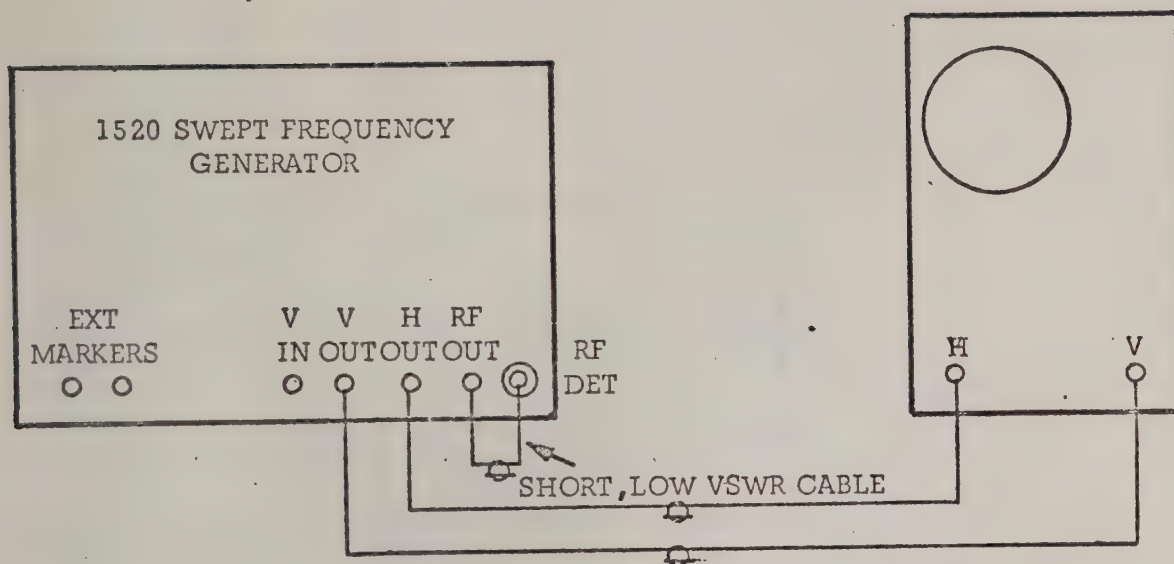

FIGURE 3.1 LINEARITY TEST SET-UP
- (1) 1/2 hour warm-up for each frequency band.
- (2) Bandwidth selector WIDE.
- (3) Calibrate Control - screwdriver slot set to vertical position.
- (4) RF Level Control set to MAXIMUM.
- (5) RF attenuation switch set to 10 db.
- (6) Harmonic marker selector switch set to 10 MHz position (1 MHz for .05-10 MHz band and the 1-10 MHz region of the 1 - 300 MHz band.)
- (7) Sweep Rate Control - 6 - 60 Hz. VARIABLE to MAXIMUM.
- (8) Vertical Blanking control to ON.
- (9) Establish a swept display on oscilloscope, as per Figure 3.1, of 5 to 6 CM amplitude.
- (1) Variable Bandwidth control set fully clockwise.
- (2) Bandwidth selector to WIDE.
- (3) RF Level control set to MAX.
- (4) RF attenuator switch set to 10 db.
- (5) Sweep Rate switch to 6 - 60 Hz, VARIABLE fully clockwise.
- (6) Counter switch to OFF.
- (7) Vertical Blanking switch to ON.
- (8) Marker Size controls - EXTERNAL & VARIABLE completely CCW.
- (9) Set up the equipment as shown in Figure 3.1.
- (10) Adjust the VERTICAL GAIN control for about 4 CM response amplitude on the scope screen.